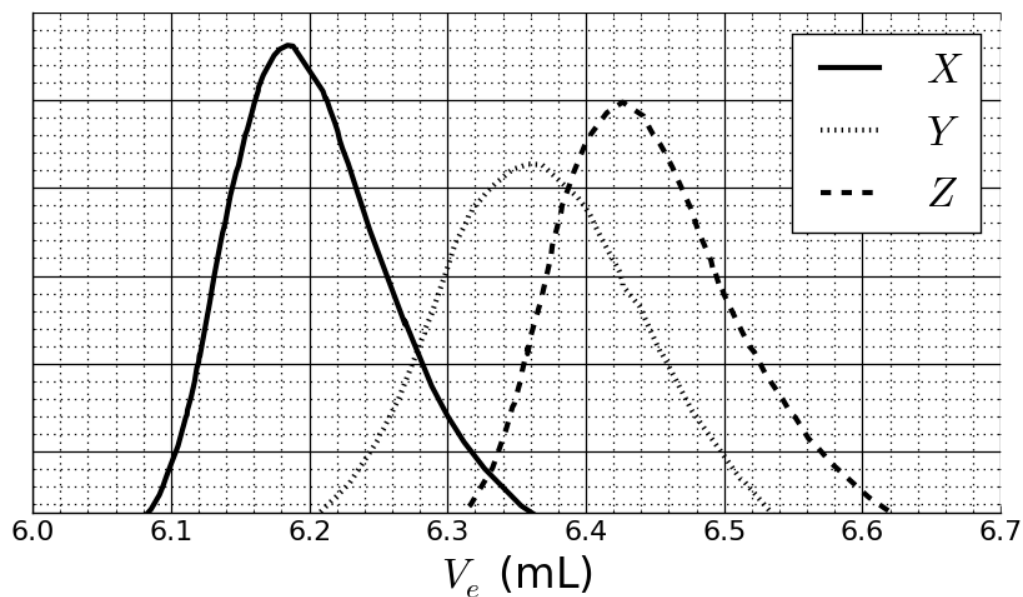

Fig. 2 – SEC chromatograms of **3a**, **3b** and **3c** as a function of the elution volume, V_e .
This reaction of **1** with **2** yielded the copolymers **3a** after 20 h, **3b** after 25 h and **3c** after 30 h of reaction at 40 °C. Results of size-exclusion chromatography (SEC) experiments are presented in Fig. 2.
6. **Match** the signals in Fig. 2 with the copolymers **3a**, **3b** and **3c**.
7. Based on the SEC curves in Fig. 2 and 3, **determine** V_e of polymer resulting in curve X and use it to **estimate** the degree of polymerization m of its second block. **Detail** your calculation; you may use a calculator or plot a graph.